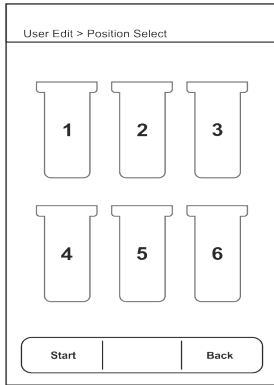

Fig. No. 23.1
- The next menu will prompt you to select the desired positions (1 to 6) (Ref. Fig. No. 23.1).